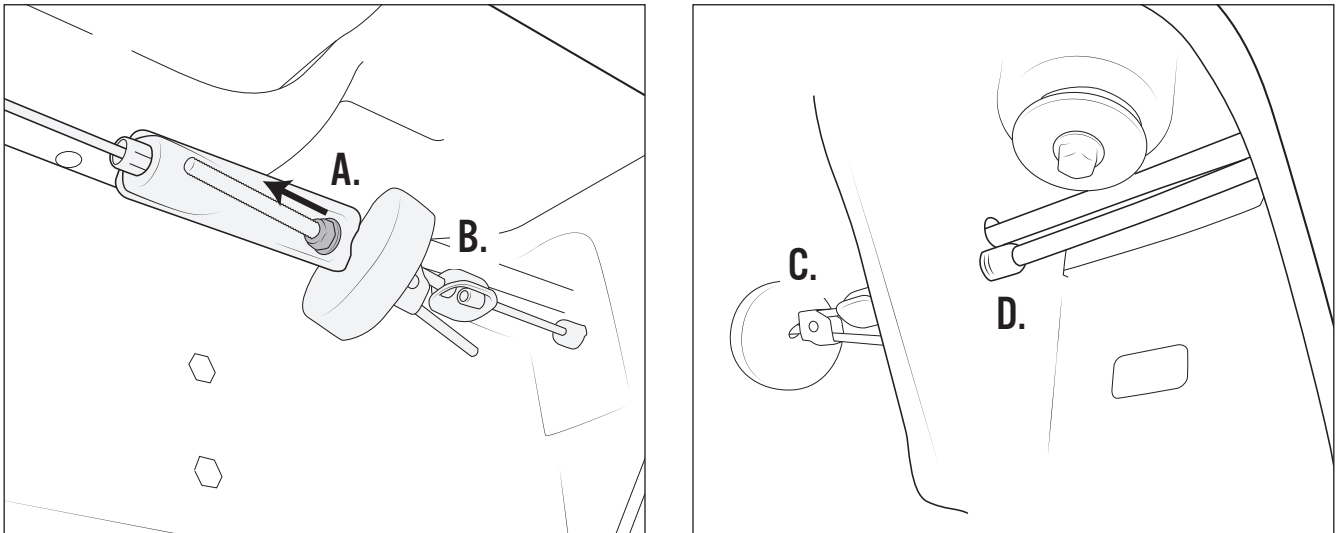

Figure 1
3. Disconnect parking brake cable (fig. 1).